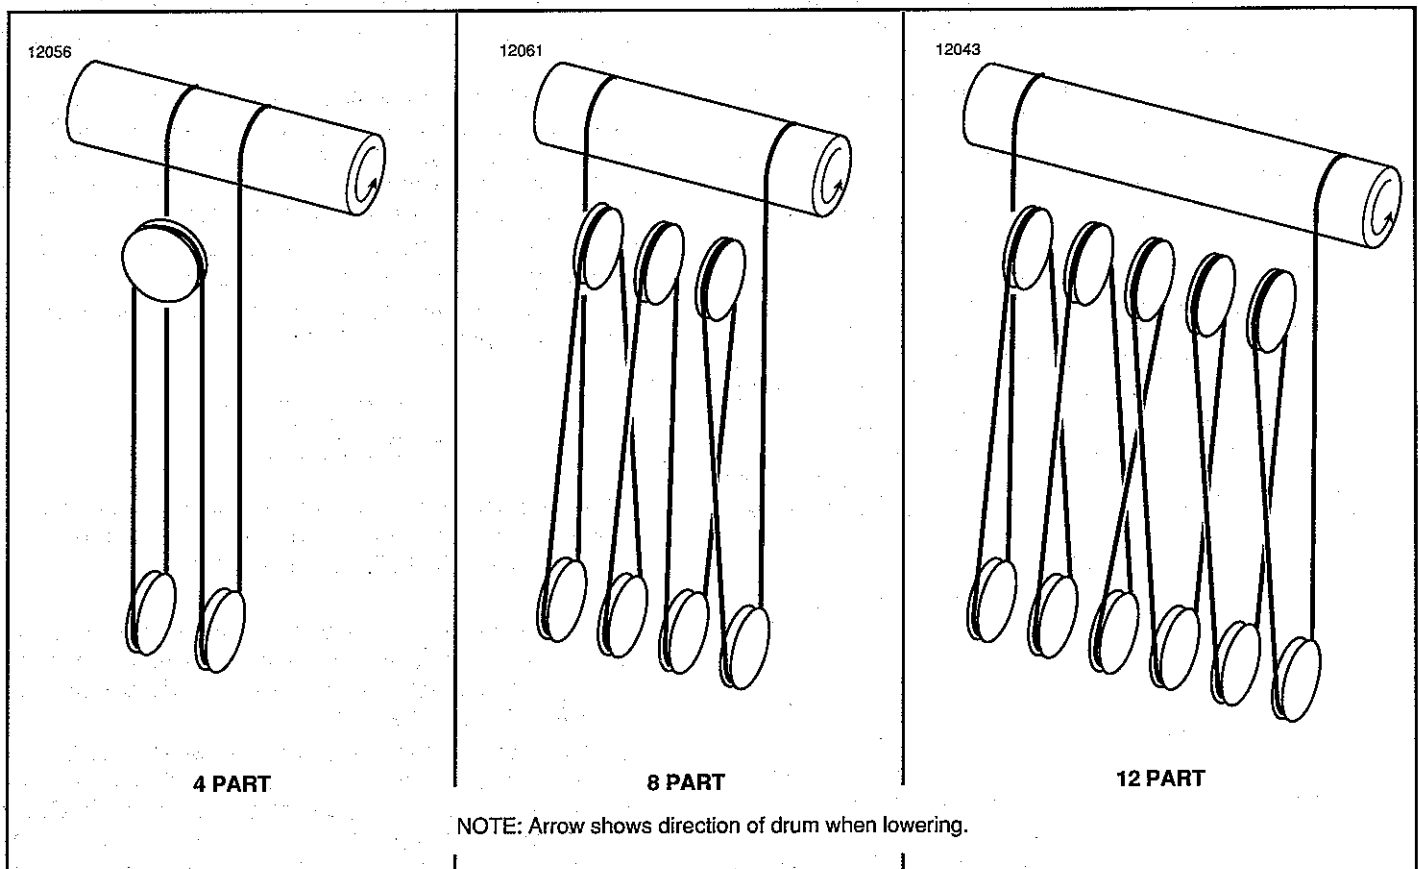

Figure 2-1. Diagrams Illustrating Cross Type Reeving.
b. Standard SHAW-BOX trolleys are arranged for CROSS reeving arrangements with reeving diagrams as shown in Figure 2-1.
c. Select the proper reeving diagram for your crane as follows: Examine lower block; count number of sheaves and multiply by (2). This is the total parts of ropes. Select correct diagram.